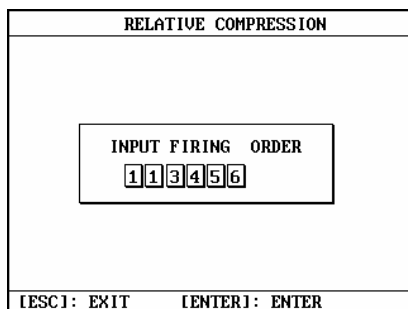
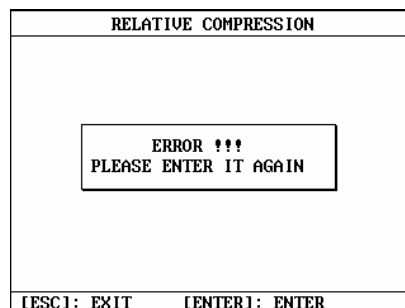

Fig.7-49
Fig.7-50
*Make sure to input the correct firing order; if a wrong firing order is inputted, the screen will display error information. For example, if mistake is made as that shown in Fig.7-49 (two "1" are inputted), the screen will prompt the error as shown in Fig.7-50 after [ENTER] is pressed.*